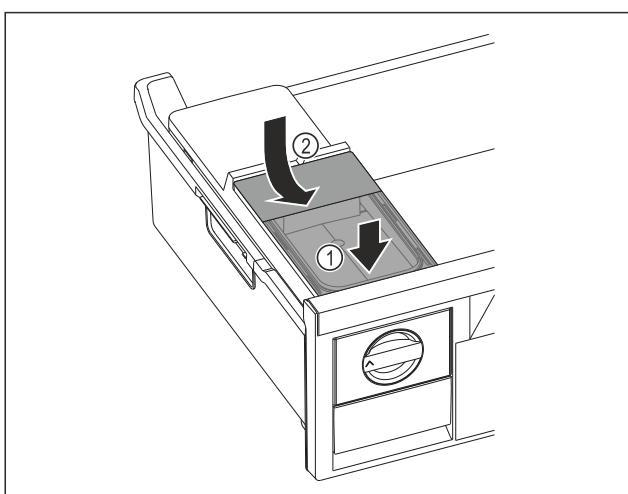

Fig. 71
- ▶ Position the water tank at the front. Fig. 71 (1)
- ▶ Lower the water tank at the rear. Fig. 71 (2)